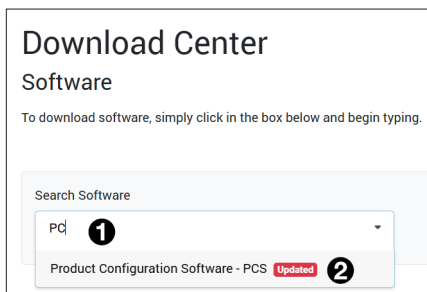

Figure 22. Download Center Software Page
2. Start typing the name of the software product in the text box (see figure 22, ①).